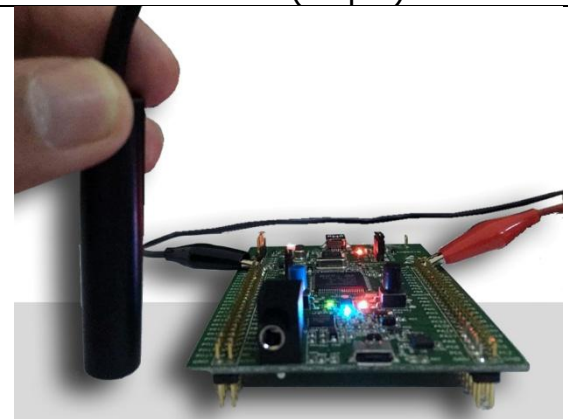

Figure 48: Resetting the IR Sensor Temperature according to the Measurement Point (Step 6)
7. The IR sensor is brought over the component to be measured when the timer resets. (Figure 48)